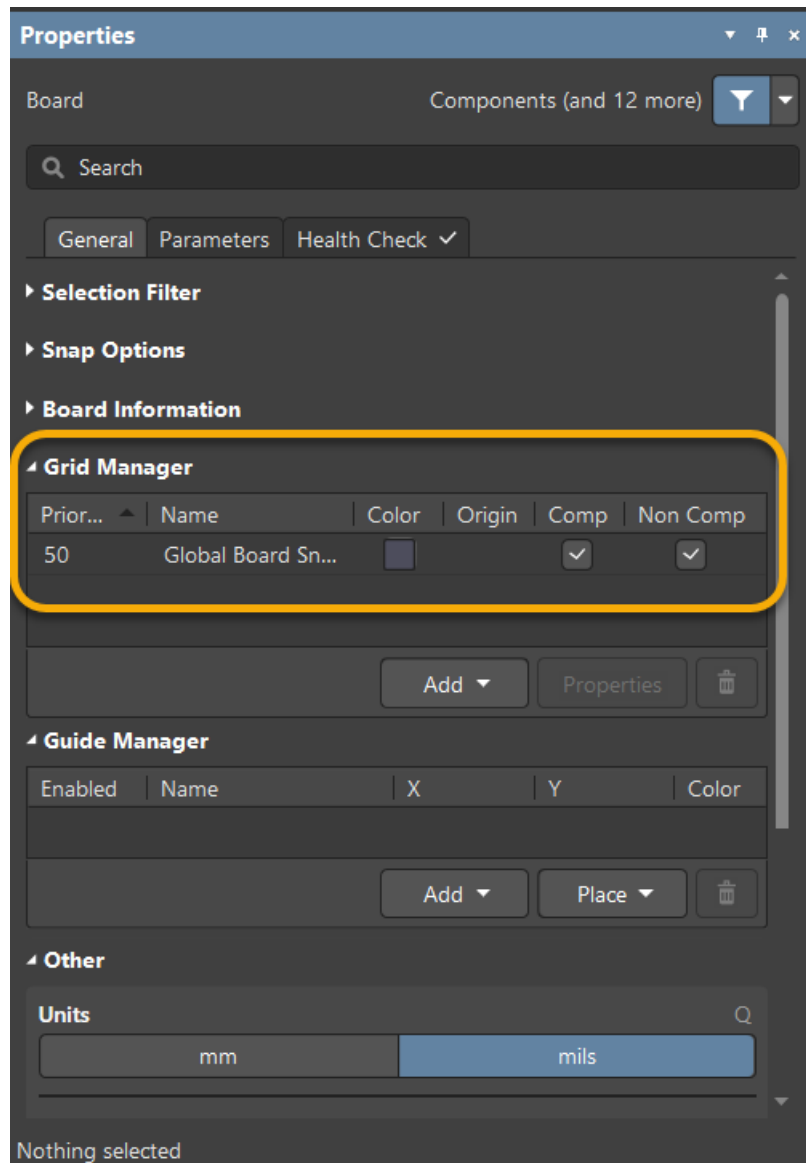

Figure 2. Properties panel with the Grid Manager
- Open the *Properties* panel by clicking **View » Panels » Properties**. The grid configuration can be found in the *Grid Manager* section of the panel, as shown in Figure 2 below. You can minimize the other sections of the panel or scroll down to see the relevant information.